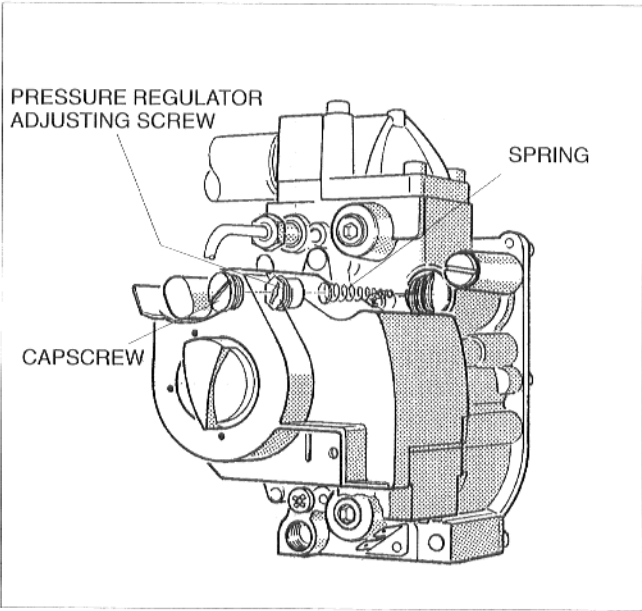

Fig.4
6. Remove the pressure regulator capscrew from the gas control, fig.4.
7. Remove the pressure regulator adjusting screw, fig.4.
8. Remove the stainless steel spring, fig.4.
9. Install the red spring contained in the Honeywell LP gas conversion kit into the gas control, fig.4.